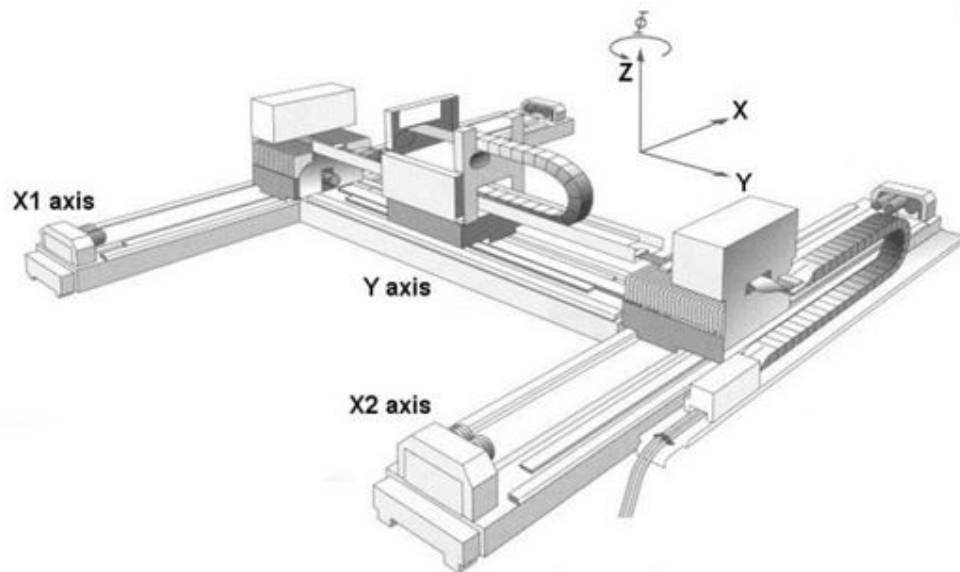

Figure 14-1. Typical Gantry
Figure 14-1 illustrates a typical gantry system with two motors (X1, X2) that move a single axis (X):